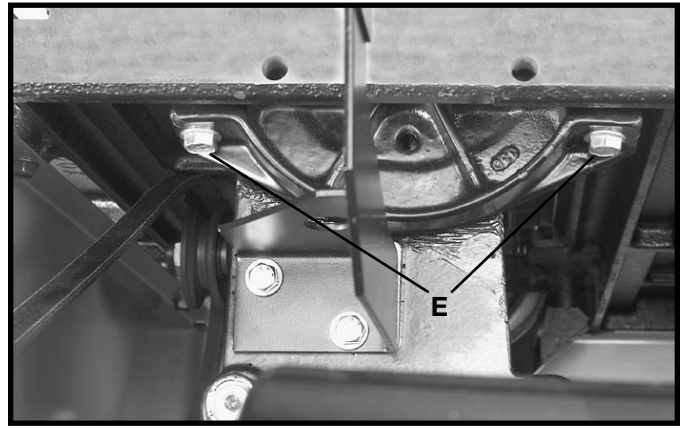

Fig. 101C
2. Lower blade; remove blade guard and table insert. With a 1/2" wrench, loosen the 4 front and rear trunnion mounting bolts (E) Fig. 101C. **NOTE:** Only the 2 rear trunnion mounting bolts are shown.
4. To check blade alignment, follow (CHECKING BLADE ALIGNMENT) procedure until proper alignment is achieved. Tighten 4 trunnion bolts (E).
5. Check blade alignment again after tightening bolts to confirm alignment. If alignment is off, loosen the 4 trunnion bolts (E) and repeat the above steps until proper alignment is achieved with bolts fully tightened.